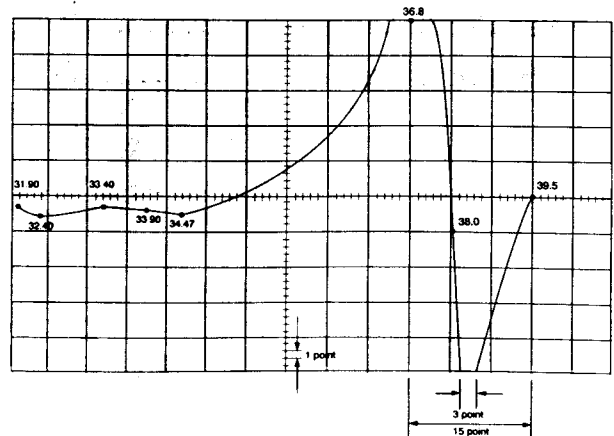

Fig. 3
- Adjust T703 so that the level of picture carrier (38.0MHz) marker point may be the center position as shown Fig 3.